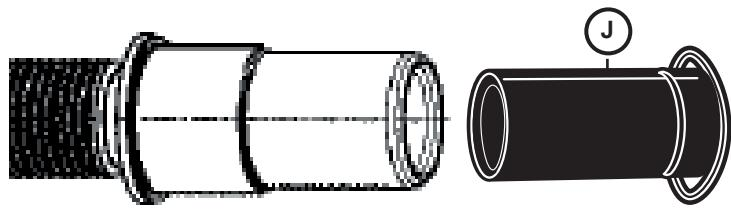

Figure 13
2. Obtain the Rubber Drain Hose Adaptor (J) spring clamp from the Dishwasher Installation Kit (**do not substitute**).
3. Insert the dishwasher drain hose into the **end of the drain hose** (see **Figure 13**. Be sure to fully insert the drain hose.